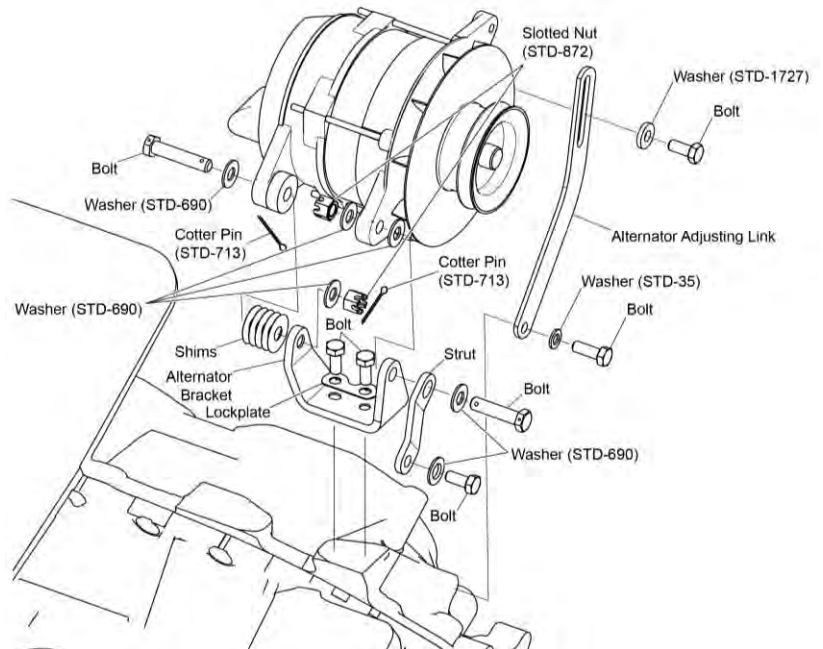
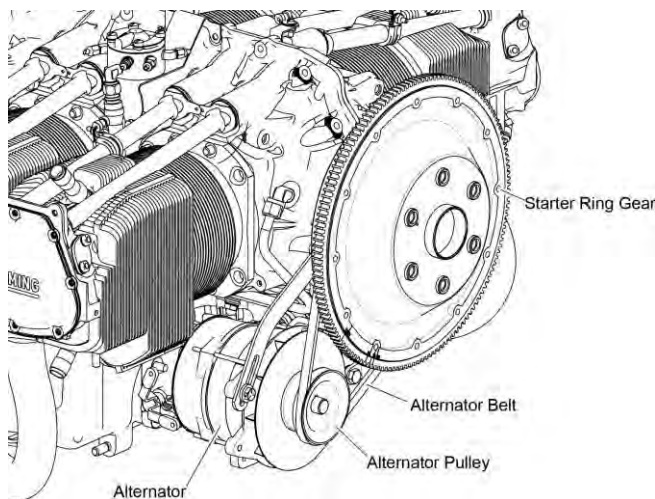

Figure 2
Figure 3
- (2) Remove the two bolts and two different washers (STD-1727 and STD-35) from the alternator adjusting link (Figure 2).
- (3) Remove the alternator adjusting link.
- (4) Remove the two cotter pins (STD-713), two bolts, two slotted nuts, shims and three washers from the alternator bracket, strut, and alternator (Figure 2). Discard the cotter pins and slotted nuts.
- (5) Remove the alternator and alternator belt.
- (1) Remove the two bolts and lockplate from the alternator bracket (Figure 2).
- (2) Remove the two bolts and washer (STD-690) from the strut and alternator bracket.
- (3) Remove the strut and alternator bracket.
- (1) Mount the alternator bracket on the engine.
- (2) Install the lockplate with two bolts and washers on the alternator bracket (Figure 2). Torque the bolts in accordance with the latest revision of the *Service Table of Limits - SSP-1776*.
- (3) Bend the tabs of the lockplate against the bolts.
- (4) Attach the strut to the alternator bracket with the two bolts and washers. Torque the bolts in accordance with the latest revision of the *Service Table of Limits - SSP-1776*.
- (1) Mount the alternator on the alternator bracket (Figure 2).
- (2) Install the bolt, two new slotted nuts, shims (as many as necessary) and three washers on the alternator bracket and alternator as shown in Figure 2. Install a new cotter pin in each new slotted nut.
- (3) Install the alternator adjusting link with the two bolts and different washers (STD-1727 and STD-35) where shown in Figure 2.
- (4) Examine the alternator belt per Chapter.72-70 in the *IO-360-N1A Engine Service Manual*.
- (5) Install the alternator belt on the alternator per the “Alternator Belt Installation” procedure in this chapter.
- (2) Loosen the bolt that attaches the alternator adjusting link to the alternator (Figure 2).
- (3) Loosen the bolt that attaches the alternator adjusting link to the crankcase (Figure 2).
- (4) Rotate the alternator on the bracket towards the starter ring gear.
- (5) Remove the alternator belt from the alternator pulley and the starter ring gear (Figure 3).
- (1) Install the alternator belt in the alternator belt groove on the starter ring gear support.
- (2) Install the alternator belt in the groove on the alternator pulley (Figure 3).
- (3) Adjust the alternator belt tension. Refer to the “Alternator Belt Tension Check/Adjustment” procedure in Chapter 72-70 of the *IO-360-N1A Engine Service Manual*.
- (4) Torque the bolts that attach the alternator adjusting link to the alternator and to the crankcase to (Figure 2) to 17 ft.-lb. (23 Nm).